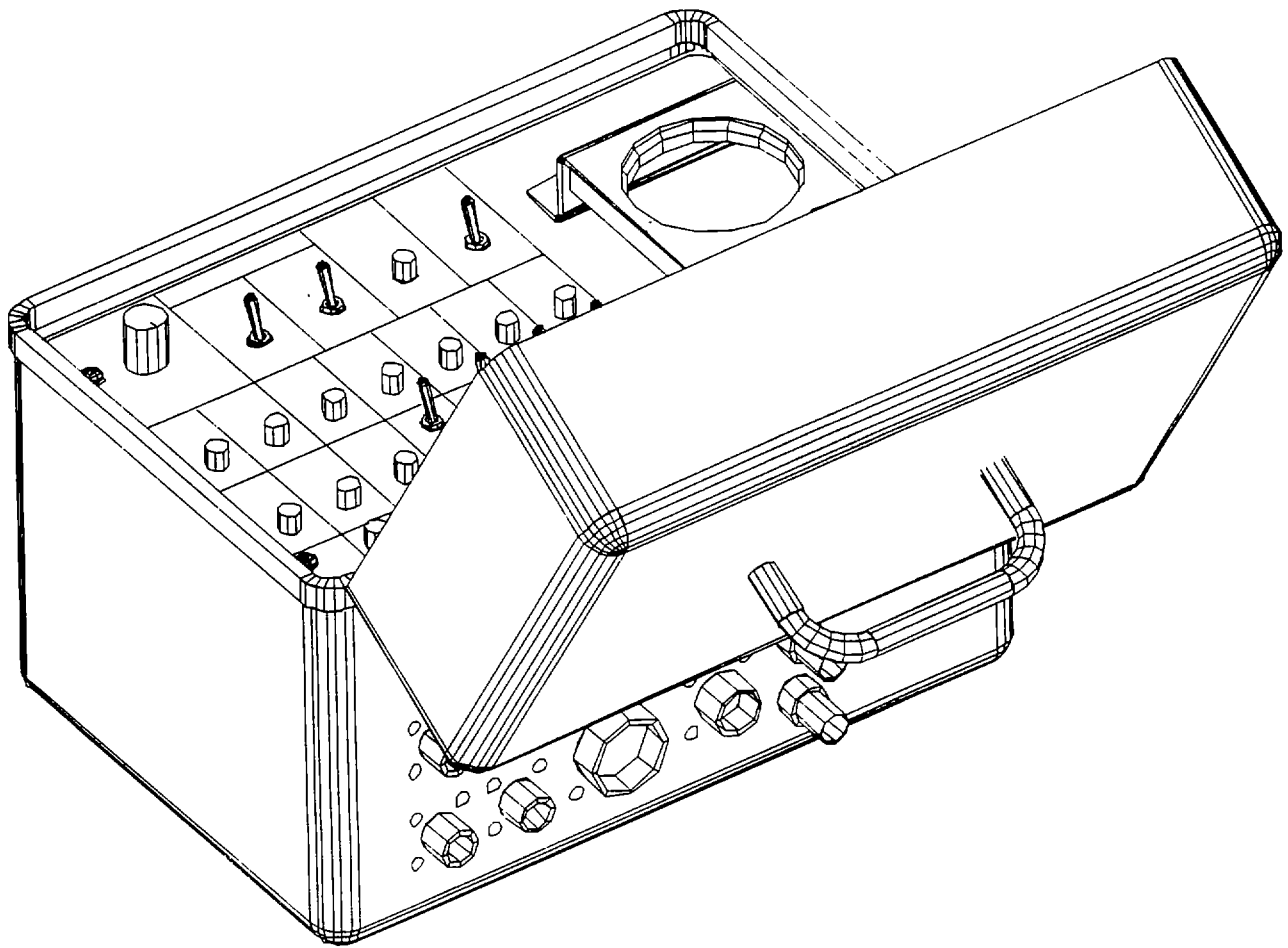

Figure 1-1. Electronic Test Set
- a. This manual contains the operation and maintenance procedures for the Electronic Test Set, Part Number 29085800 (figure 1-1).